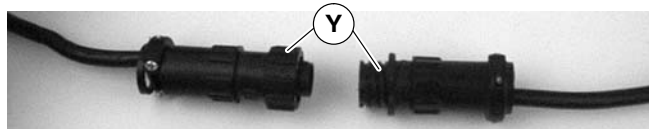

Figure 17
3. For DC variable speed motor, unplug motor cord at disconnect (Y of Figure 17).